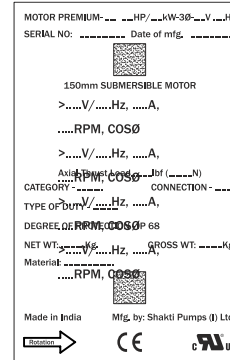

Figure 5-1 Name Plate with date of mfg.
- ⇒ Determine the age of the motor by checking the Name plate (see Figure 5-1).